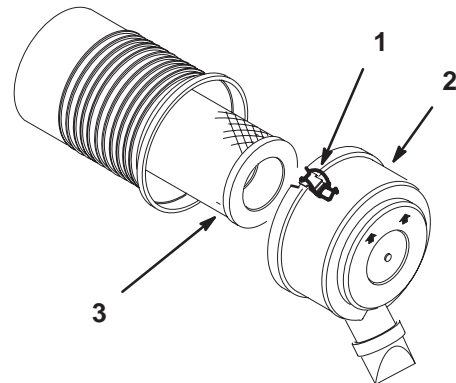

Figure 21
3. Clean around the air cleaner to prevent dirt from getting into the engine and causing damage. Loosen retaining clips and remove air cleaner cover (Fig. 21).
4. Carefully remove filter from compartment (Fig. 21).
1. Carefully slide the element into the compartment (Fig. 21).
2. Place the air cleaner cover onto compartment and latch retaining clips (Fig. 21).